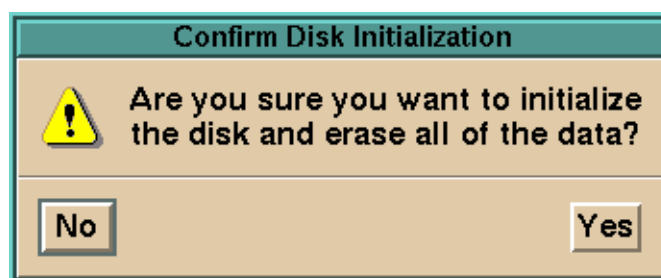

Fig. 6.10-2 Confirmation Dialog to exit from Initialization
- (1) Insert the MOD/DVD to be initialized into the drive unit.
- (2) Input the volume label to the MOD/DVD to be initialized in the volume label area.
- (3) Click [Initialize] button. The dialog shown in Fig. 6.10-2 is displayed. Click [Yes] button. Initialization of the MOD/DVD automatically starts.